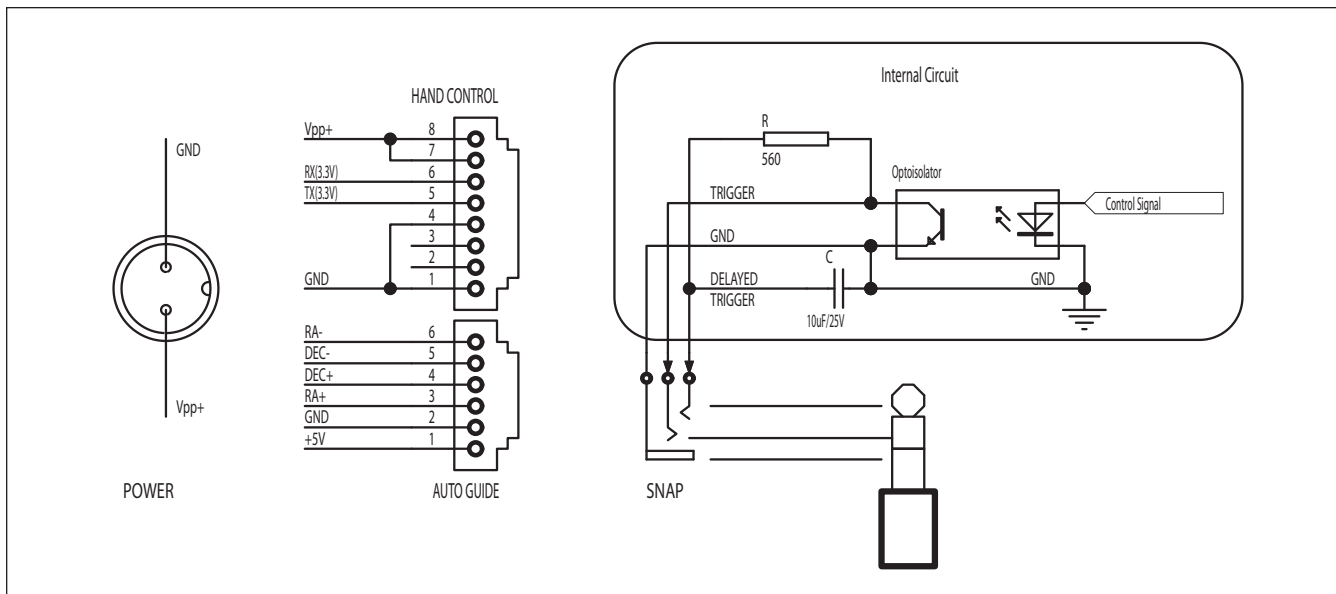

Figure 19. Schematic diagrams of the drive panel's electronic interfaces.
5.3 Pinout of the Interfaces (Figure 19)